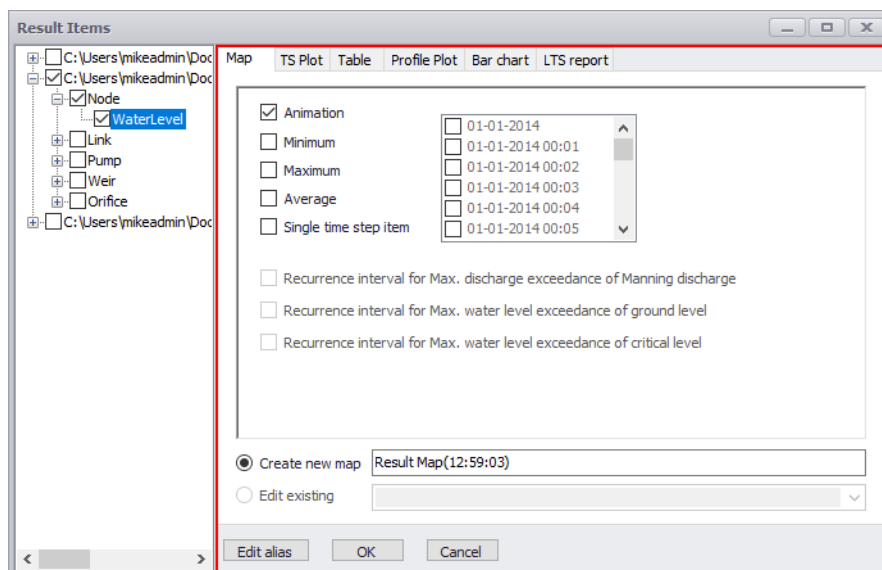

Figure 20.11 Choosing plot value type to display on the map
Plot results on a result map via the Map tab on the Result Items dialog (Figure 20.11). The dialog is accessed via the 'Result documents' option from the Result View local context menu.
- Navigate to the Map tab on the Result Items dialog (Figure 20.11).